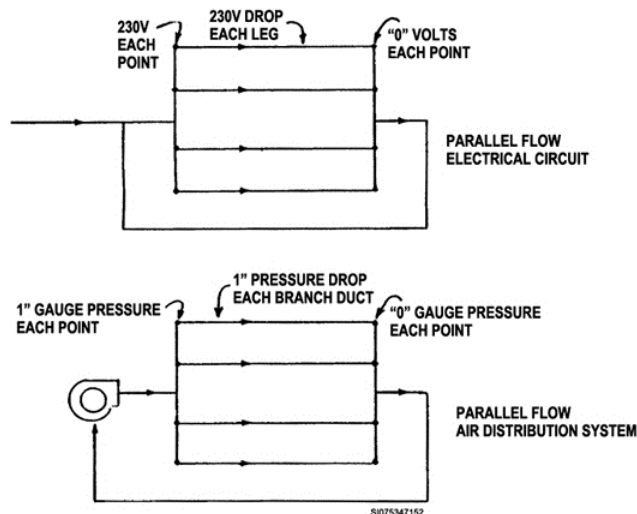

Figure 2-30. Parallel pressure drops.
6. Pressure drops in air systems are parallel in nature in exactly the same way as voltage drops are in a parallel electrical circuit (fig. 2-30). Just as the voltage drop is the same across each leg of the parallel electrical circuit, so is the total pressure drop the same from the discharge of the fan to the end of each branch in the air distribution system.